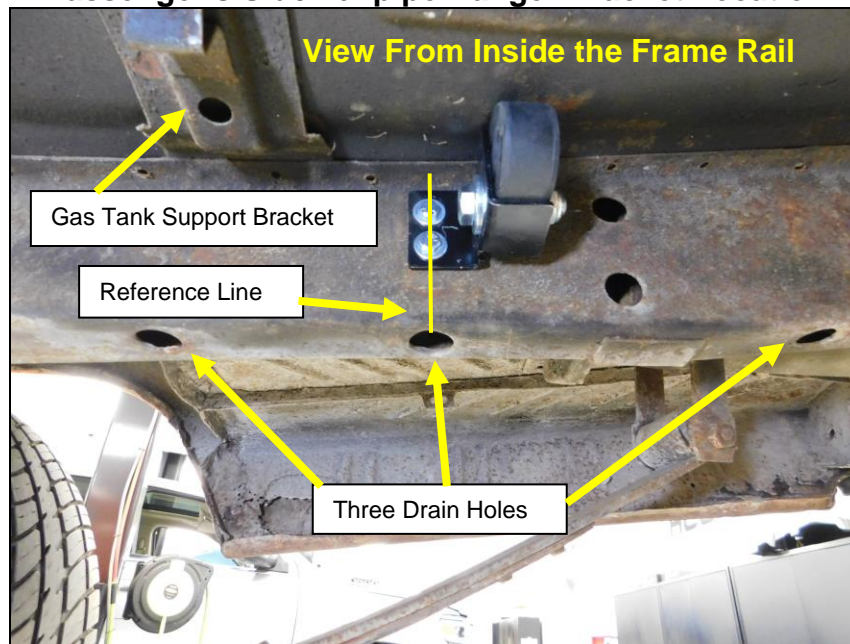

Figure 8
2. Draw a line vertically from the center of the three drain holes in the frame rail referenced in **Figure 8** up to the trunk floor pan. This will be the reference plane that the hanger bracket will be installed on.